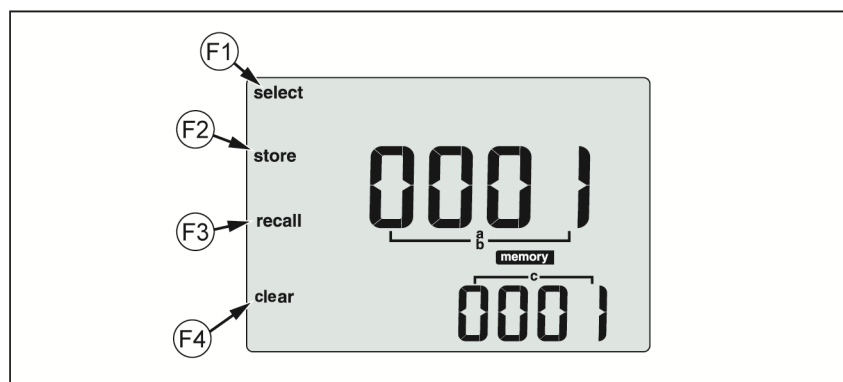

Figure 18. Memory Mode
1. Press **MEMORY** to enter Memory mode. See Figure 18.